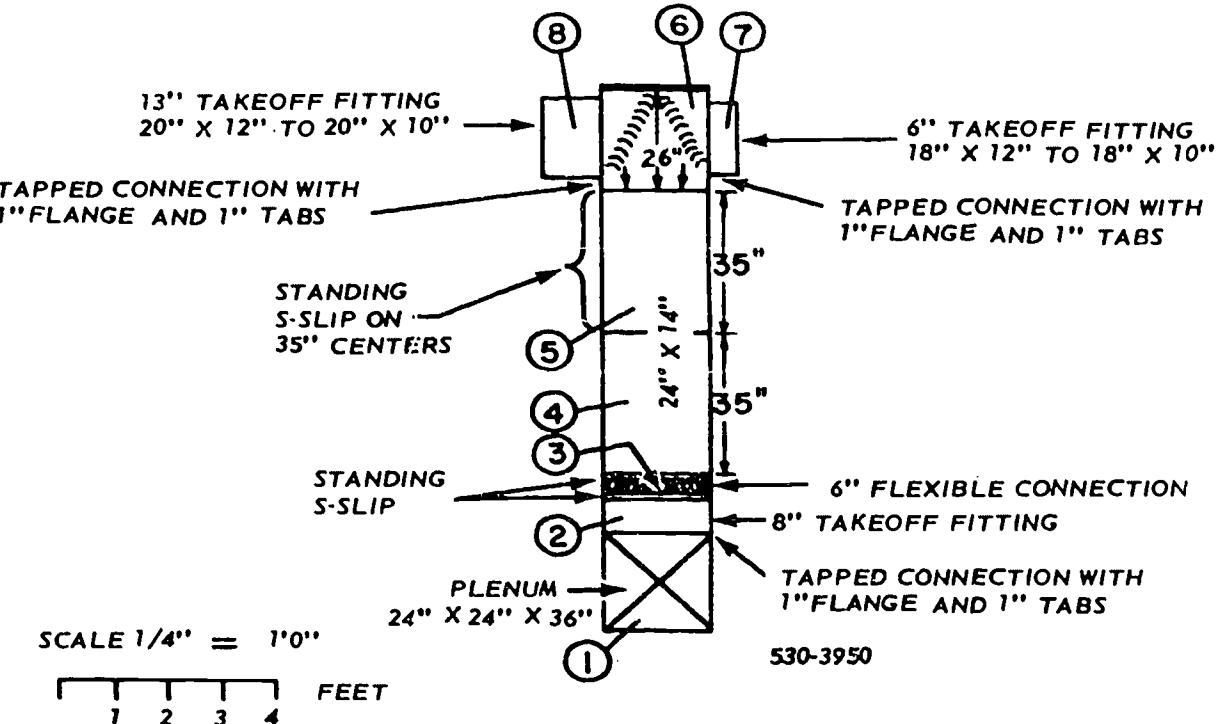

Figure 4-2. Breakdown of plenum and trunkline A.
**Exercises (437):**
**Trunkline A and Plenum.** Figure 4-2 is a breakdown of trunkline A in foldout 1. This shows how you divide trunkline A into joints and takeoff fittings. To break down a trunkline like this, your first step is to make a scale drawing of the plan view, showing only the outline of the trunkline. Since trunkline A is connected to the supply plenum of the heating and air-conditioning units, the plenum is also included in the drawing. As stated earlier in this chapter, the plenum is 24 inches wide, 36 inches high, and 24 inches long. Trunkline A is 24 inches wide, 14 inches high, and 9 feet 2 inches long. No joint connection allowances are needed for either the top or bottom of the plenum.
Thus far the material required for the two patterns has been determined, and you can see that you need one whole 3' x 10' sheet (with 36" x 22 $\frac{3}{4}$ " left over) and another sheet from which the 28" x 28" cover can be made. This indicates that you need some sort of bookkeeping system to identify the parts by size and quantity, to identify the sheet from which the pattern will be cut, and to indicate how many and what size of sheets you need. Figure 4-3 is an example of such a record. You will find that it is also helpful to make a sketch of each sheet of metal, showing how the patterns should be arranged to avoid unnecessary waste. Figure 4-4 shows how the trunkline and plenum can be made from four sheets. The sequence for determining the size and quantity of sheets required is to: (1) make a drawing, like figure 4-2, to show the dimensions of the ducts and joints; (2) start a materials-required list, like figure 4-3, and (3) make sketches of the sheets, as in figure 4-4.
Trunkline A has the same dimensions (24" x 14") for its entire length. Therefore, its stretchout, including Pittsburg lock seam allowance, is 77 $\frac{1}{4}$  inches. Its length, as previously determined, is 9'2", which can be divided into joints as shown in figure 3-2. Beginning with joints 4 and 5, you should enter the pattern dimensions and requirements on lines of the materials chart (fig. 4-3). These patterns, including allowances, are each 36" x 77 $\frac{1}{4}$ " and should be made from two 3' x 10' sheets with two 36" x 42 $\frac{3}{4}$ " pieces left over. (One of these leftover pieces can be used to make the plenum cover.) You determine these dimensions by making sketches of sheets 2 and 3, as shown in figure 4-4. In figure 4-2, you can see that joints 4 and 5 occupy only 70 inches of the total length (110 inches) of trunkline A. This leaves 40 inches for joints 2, 3, and 6.
and 6. In figure 4-2, you can see how these 40 inches are used to make joints of appropriate sizes. Joint 6 is shown to be on 26-inch centers and is connected to joint 5 with S-and-drive slips. The pattern for joint 6 measures 26 $\frac{1}{2}$ " x 77 $\frac{1}{4}$ ", which will need part of another whole sheet (sheet 4, fig. 4-4), with two leftover pieces. One of these pieces is large enough to make the 18" x 28" end cover for joint 6. The joint 6 entry is now made in figure 4-4, and the sketch made on figure 4-3 for joint 6 and its end cover. This end cover is to be installed with standing S-seams similar to those for the plenum cover.
Joint 7 in figure 4-2 is a takeoff fitting 6 inches long, which reduces from 18" x 12" to 18" x 10". It has a tapped connection at one end and S-and-drive connections at the other. Since this transition tapers on two sides, it should be made in four pieces with four Pittsburgh lock seams. The pattern for each piece is 9 $\frac{1}{2}$  inches wide (6-inch length plus 3-inch allowance for the tapped connection and 1/2-inch allowance for the S-and-drive connection.) The two patterns for the top pieces are 9 $\frac{1}{2}$ " x 20" (2 inches are allowed to make the pockets for the Pittsburgh lock seams). The two patterns for the side pieces are 9 $\frac{1}{2}$ " x 12 $\frac{1}{2}$ " (1/2 inch is allowed to make the 1/4-inch flanges for the Pittsburgh lock seams). These four pieces are entered as line items in figure 4-3. Notice in the sketches that the piece left over from the joint 6 end cover (sheet 4) is large enough to make two top pieces 9 $\frac{1}{2}$ " x 20". Also, notice that the two 9 $\frac{1}{2}$ " x 12 $\frac{1}{2}$ " side pieces are made from sheets 2 and 4.
Joint 8 in figure 4-2 is a takeoff fitting 8 inches long, which reduces from 20" x 12" to 20" x 10". It is the same shape as joint 7 but has different dimensions. Joint 8 will require four pieces and four Pittsburgh lock seams. The two 11½" x 22" pieces for the top and bottom can
The last step in determining the size and quantity of material for trunkline A involves the standing S-slips and-drive slips that connect the joints. In figure 4-2 you can see that S-and drive slips are used in four places. This means that you need 8 standing S-slips, with 5½" x 23¾" of metal each. The 8-drive slips need 2¼" x 16"